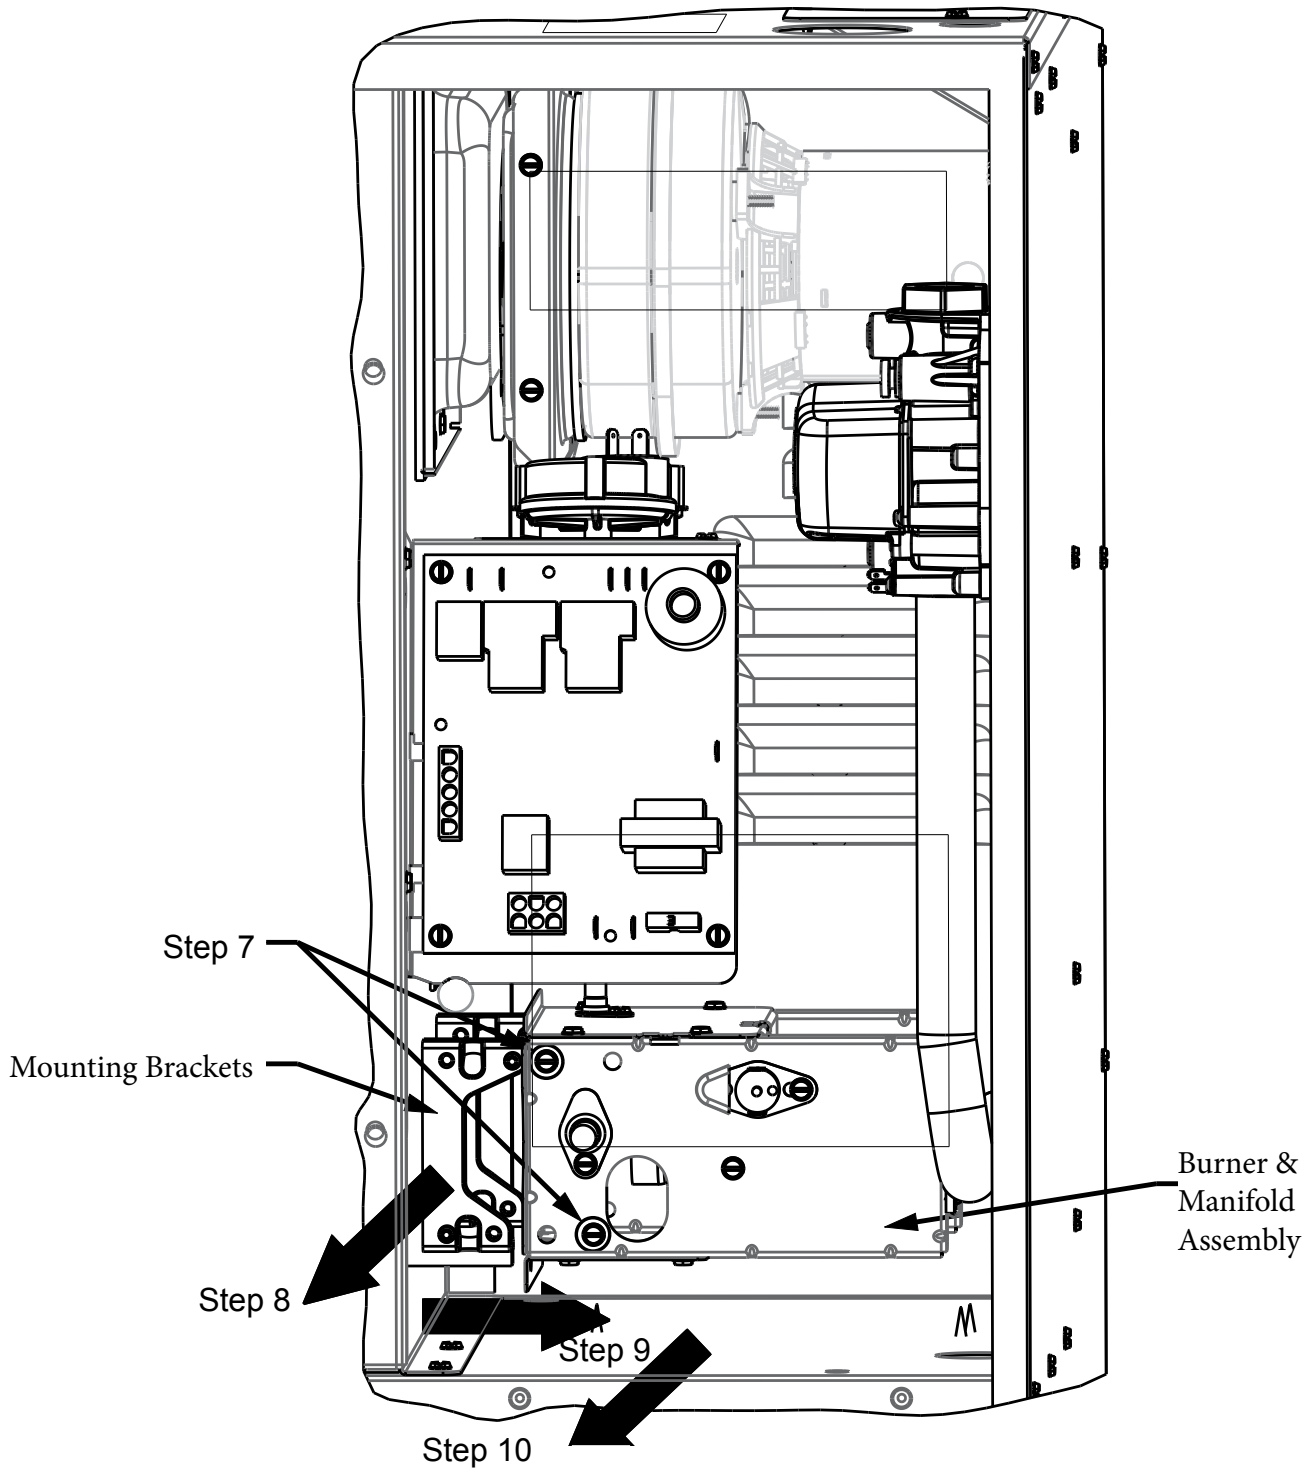

Figure 6
7. Refer to Figure 6. Remove the two screws on the burner assembly that secure it to the mounting brackets. The mounting brackets contain pins to locate the assembly and hold it in place after the screws are removed. The mounting brackets are hidden until the burner assembly is removed.